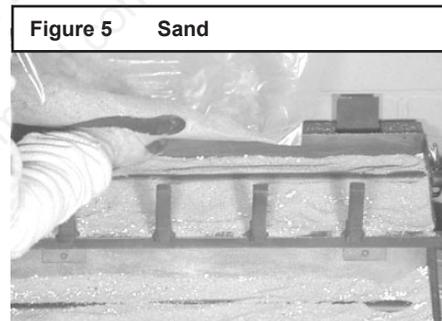

Figure 5 Sand
- For propane (LP) installations skip to “J for Propane Gas Installation”.
- Pour sand into the burner pans to the point where the burner pipe is covered. See Figure 5. Level the sand from right to left to ensure an even flame pattern. At this point the pan should be half full. Be sure not to cover pilot assembly.